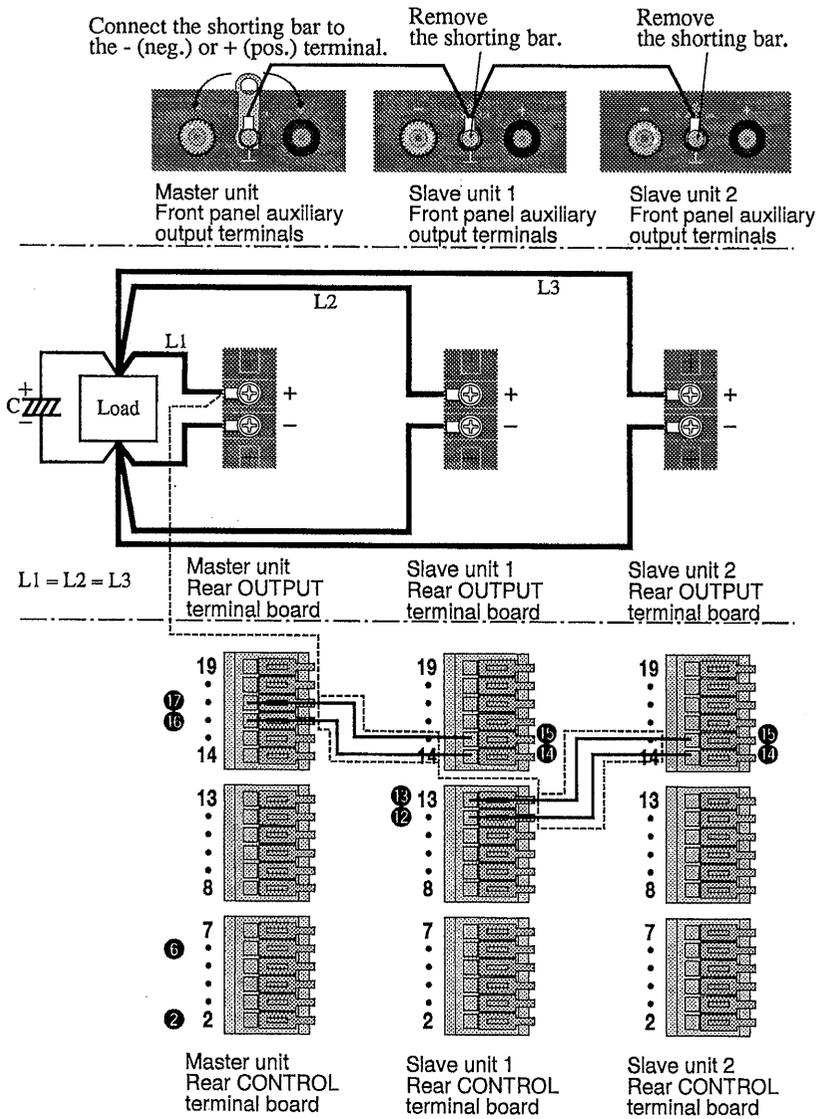

Fig. 3-12A Connection for master-slave-control parallel operation
- ⑥ Connect the master unit and slave unit as shown in Fig. 3-12A. Fig. 3-12A shows an example of how the rear output terminals are connected in parallel for two slave units